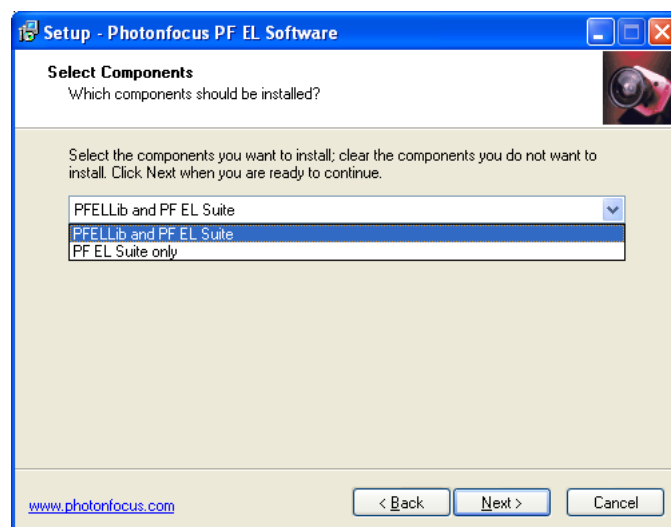

Figure 2.6: Photonfocus PF EL Installer: select components
6. Select which components you want to install (see Fig. 2.6). Select "PF EL Suite only" if you only want to install the PF EL Suite application. Click on the Next button to continue.